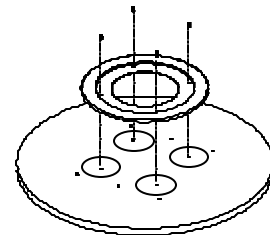

Figure 1
- (1) bearing ring
- (25) #6 screws
Step 4: Assemble the bearing ring to the base. Using (4) #6 screws, align the bearing ring on the pre-drilled holes (fig. 1). Secure the bearing ring to the base. **Be sure not to over-tighten the screws and strip them out of the wood.**